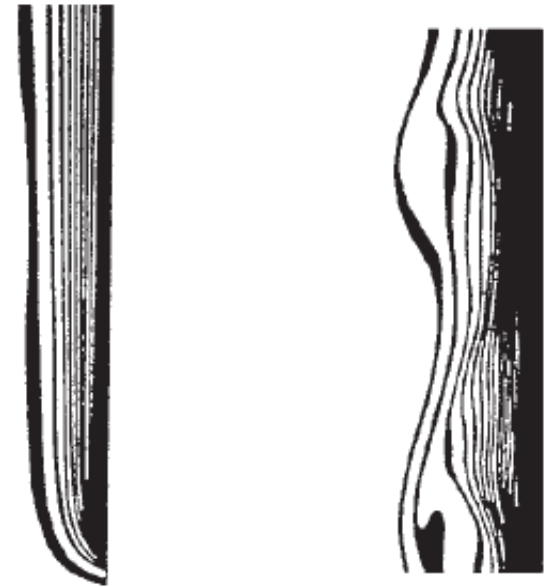

Fig 3: Isotherms in natural convection over a hot plate in air
- The temperature and velocity profiles are as shown in Fig 3.